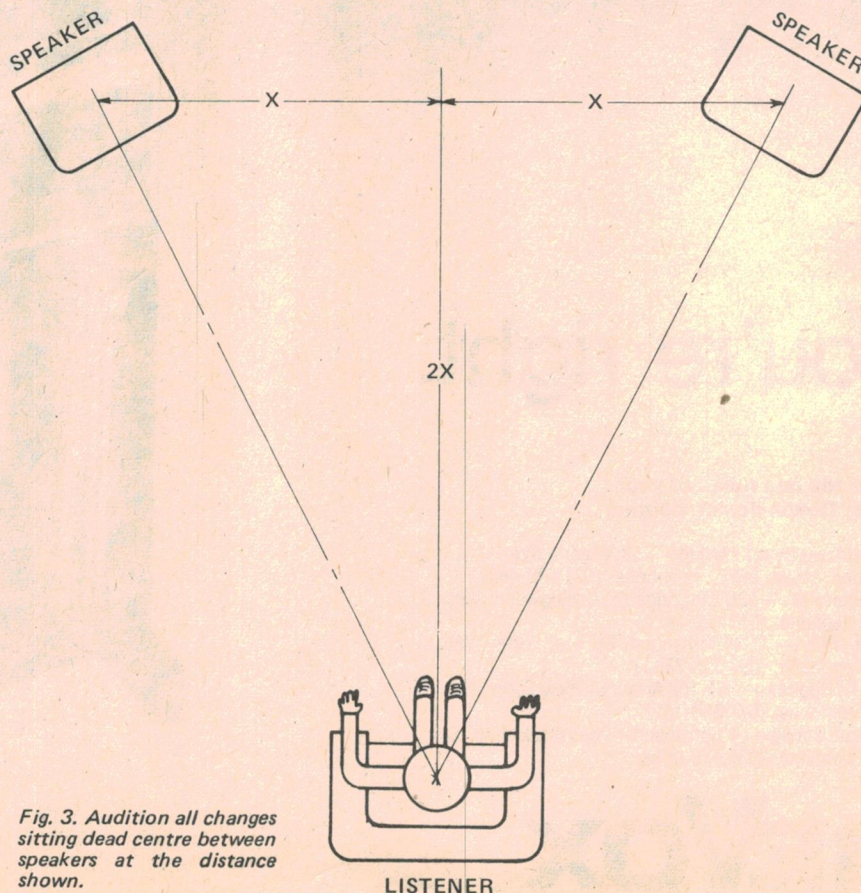

Fig. 3. Audition all changes sitting dead centre between speakers at the distance shown.
STEP 7: Switch to stereo, and sitting dead centre between the speakers as per Fig. 3 (if not using headphones), listen carefully to the test track.